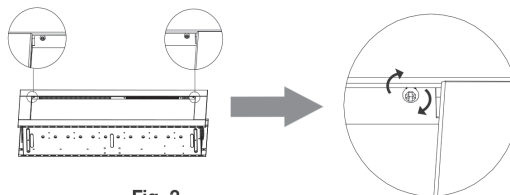

Fig. 3
- G. Secure appliance to the brackets using 4 fasteners (supplied) and the slots from the appliance (Fig. 3).
- D. Install the small end of the strain relief into the new cover plate (supplied) using the screws previously removed in step A (Fig. 3).
- Secure trims by tightening the securing fasteners (**Fig. 3**).